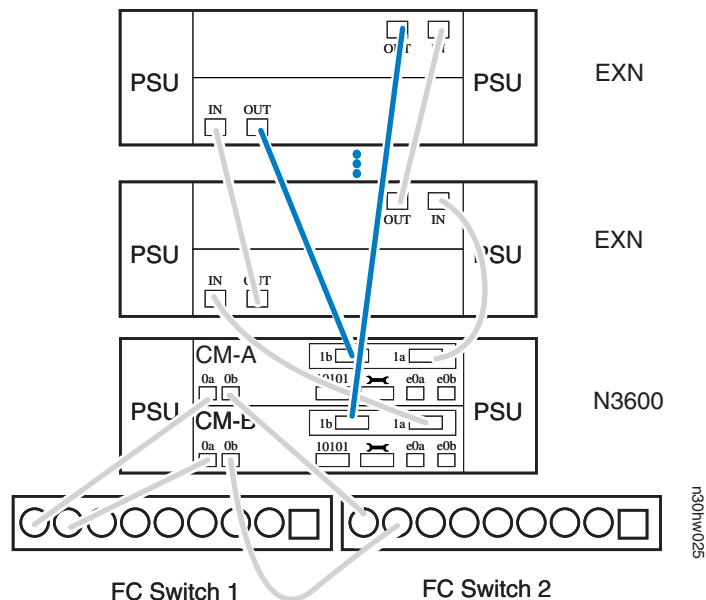

Figure 7. Cabling the N3600 expansion adapter to expansion units
8. As shown in Figure 7, cable the dual-port expansion adapter Port 1b on the top controller module (CM-A) to the last expansion unit Channel B ESH2/ESH4 or AT-FCX OUT port.
9. As shown in Figure 7, cable the dual-port expansion adapter Port 1b on the bottom controller module (CM-B) to the last expansion unit Channel A ESH2/ESH4 or AT-FCX OUT port.